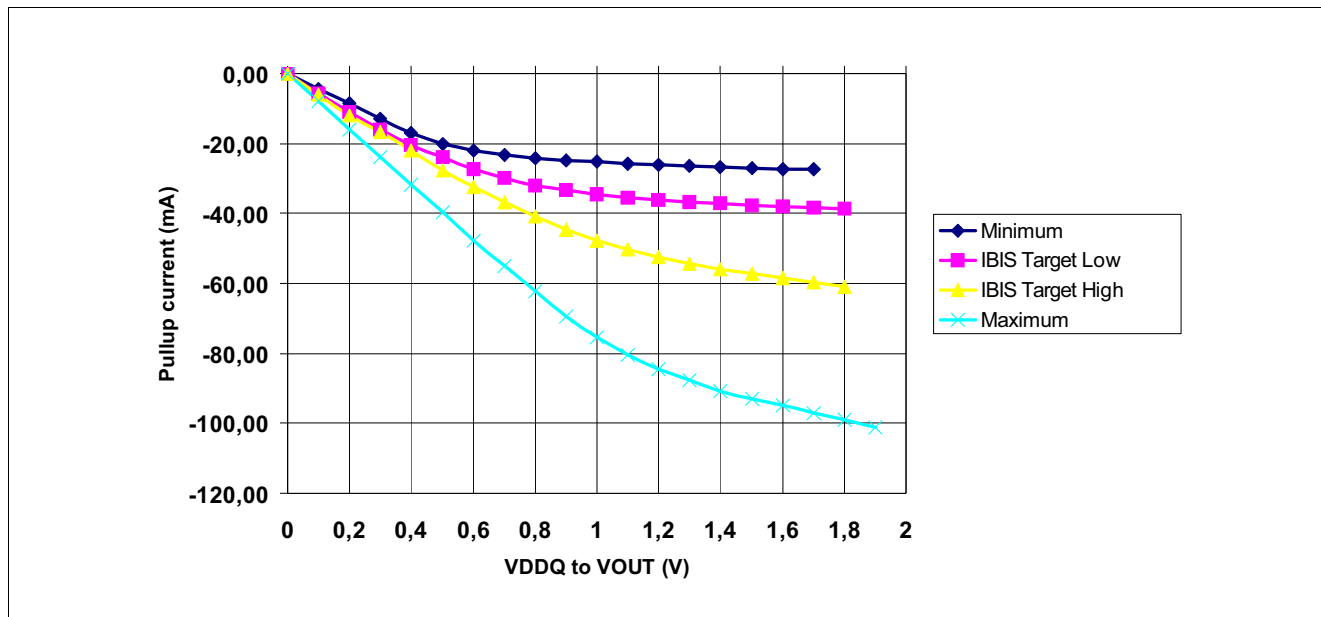
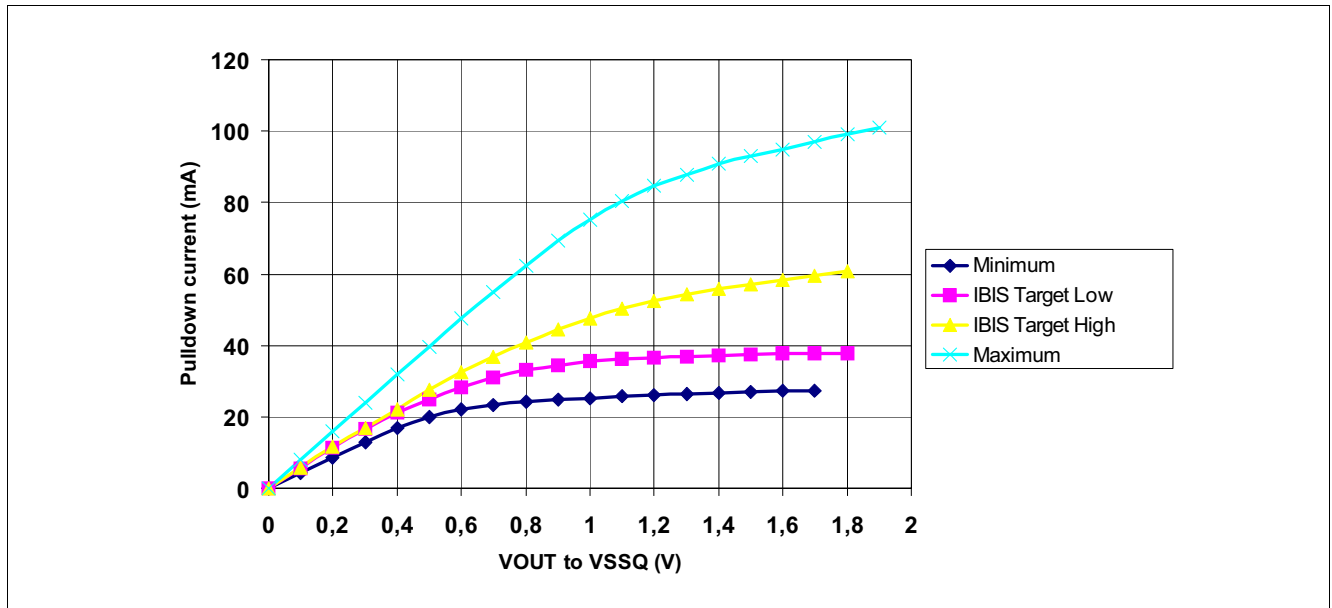

Figure 66 Full Strength Default Pull-up Driver Diagram
Figure 67 Full Strength Default Pull-down Driver Diagram
DDR2 SDRAM output driver characteristics are defined for full strength default operation as selected by the EMRS(1) bits A[9:7] = '111'. **Figure 66** and **Figure 67**